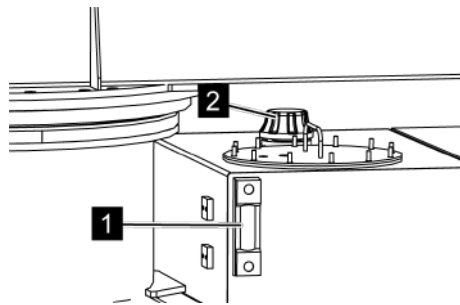

Fig. 164: Unscrewing the lid
6. → If necessary, top up hydraulic oil (Item no. 3917/0066) (☞ 'Oil recommendations' on page 52). Open the padlock of the lid (Fig. 164/1) with the corresponding spanner and remove it (☞ Chapter 4.7.1 'Keys' on page 66).
7. → Unscrew the lid (Fig. 164/2) from the hydraulic oil tank.
8. → Fill up the hydraulic oil up to the maximum marking on the inspection glass (Fig. 164/1).
9. → Screw the lid (Fig. 164/2) back on and secure with the padlock.